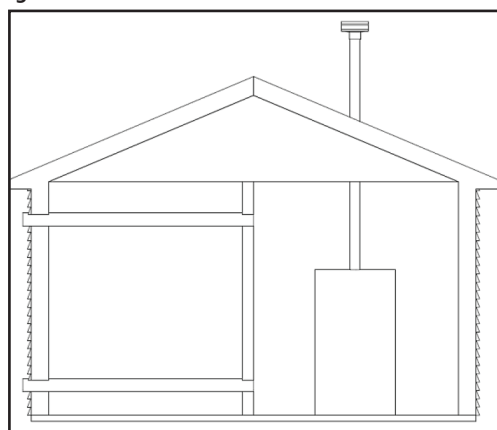

Figure 16 - Combustion Air through Ductwork
2. If combustion and ventilation air is taken from the outdoors using a duct to deliver the air to the mechanical room, each of the two openings should be sized based on a minimum free area of one square inch per 2000 BTU/hr input. See Figure 16.